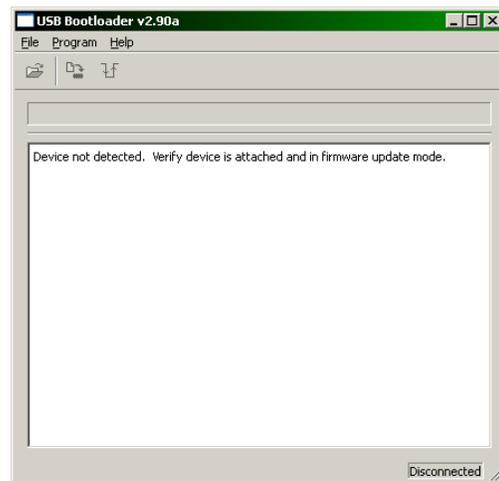

Fig. 1
- ▶ Start the Software(shows as Fig. 1)